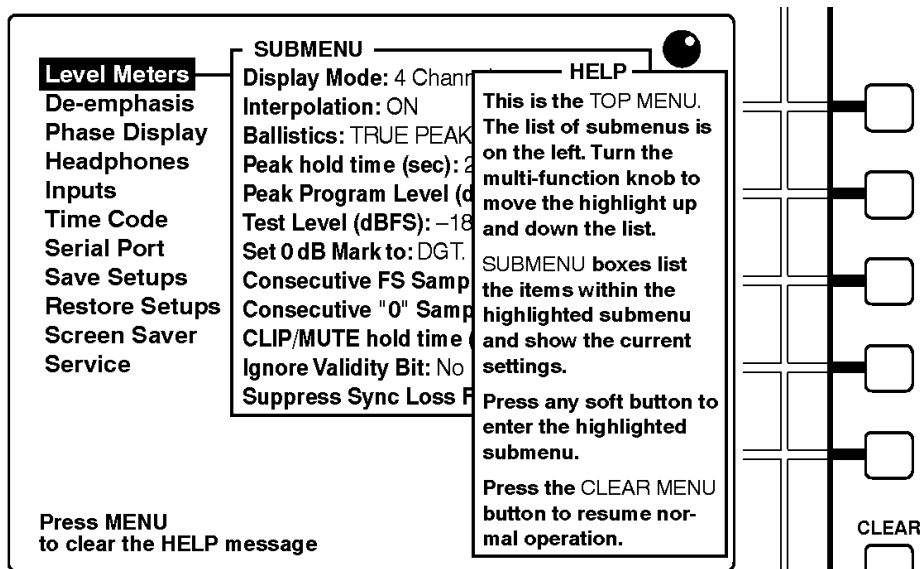

Figure 9: The top menu HELP message
2. When the 764 is in menu mode, **MENU** provides access to context-sensitive **HELP** messages. Press **MENU** now to see the TOP MENU help message; the display resembles Figure 9. Press the button again to clear the message.